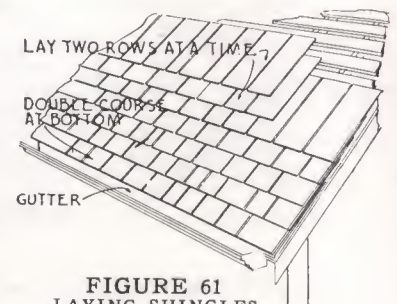

FIGURE 61
- (c) In order to get the spacing of the shingles correct and in a true line, lay off the 5-inch spacing carefully at two points and snap a chalk line between them. It will be found convenient to lay out two rows at a time rather than to work only one row clear across the roof (see Figure 61). Any shingles which are over 8 inches in width should be split into two shingles. Be sure to lay the shingles $\frac{1}{4}$ of an inch apart. Also lay them so that each shingle covers the joint between the shingles below by at least two inches. Nail each single 6 inches from the bottom edge with two 3-penny shingle nails.